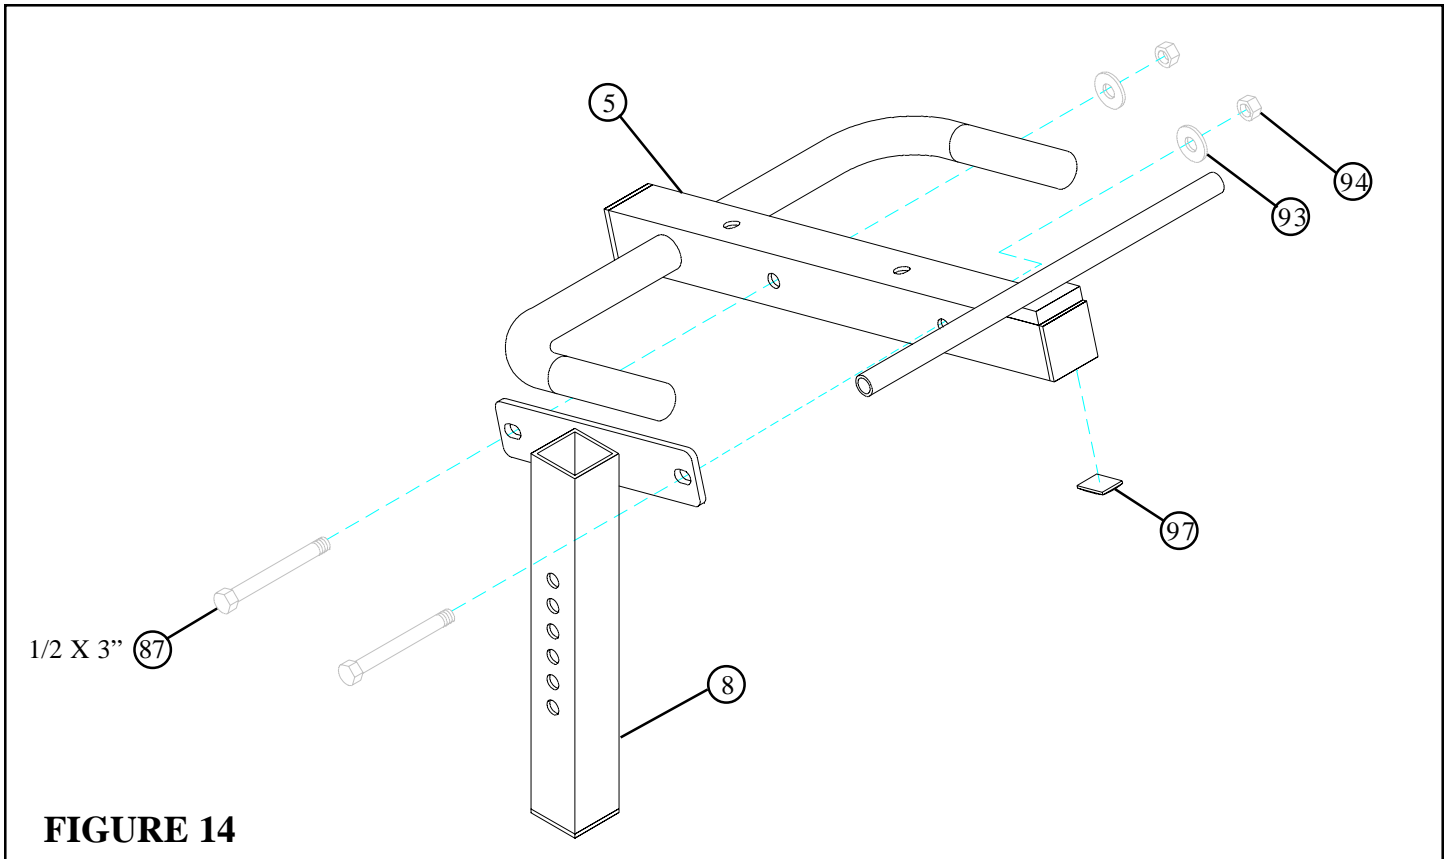

FIGURE 14
- **SECURELY** assemble the PEC SEAT ADJUST (8) to the PEC SEAT (5) using two 1/2 X 3" BOLTS (87), two 1/2" WASHERS (93) and two 1/2" LOCK NUTS (94). See FIGURE 14.
- **SECURELY** attach one 3/4" SQ. RUBBER BUMPER (97) to the PEC SEAT (5) as shown in FIGURE 14.
- Assemble two ROLLER PADS (37) to the PEC SEAT (5) using two STARLOCK COLLARS (50). See FIGURE 14.